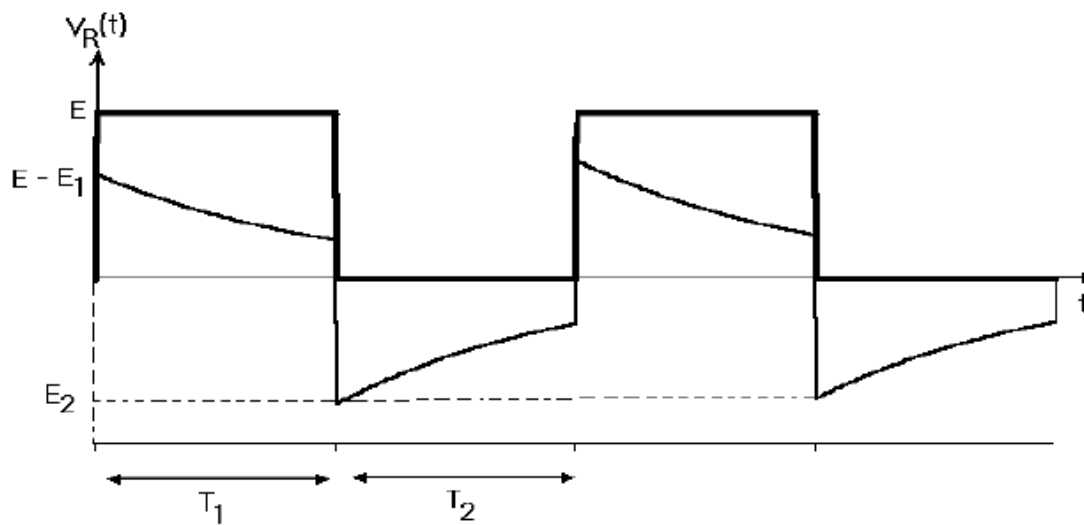

Figure 8
is found. If the pulse duration of rectangular wave is T_1 , period is T , amplitude is E and numerical values of R and C are given by using equations in (8), E_1 and E_2 are calculated numerically and also (6) equations which give the variation of $v_C(t)$ with time can be found numerically. If $v_C(t)$ is clear, $v_R(t)$ can be found as given in Figure 8.